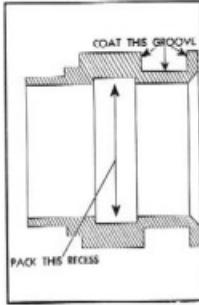

Fig. 11—Lubrication Points on Throw-Out Bearing Collar
- Lubricate the recess on the inside of the throw-out bearing collar and coat the throwout fork groove with a small amount of high-melting point lubricant. (Fig. 11.) Then install the ball throwout bearing assembly to the throwout fork.